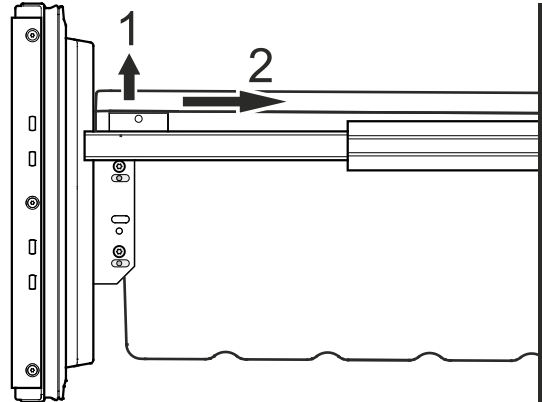
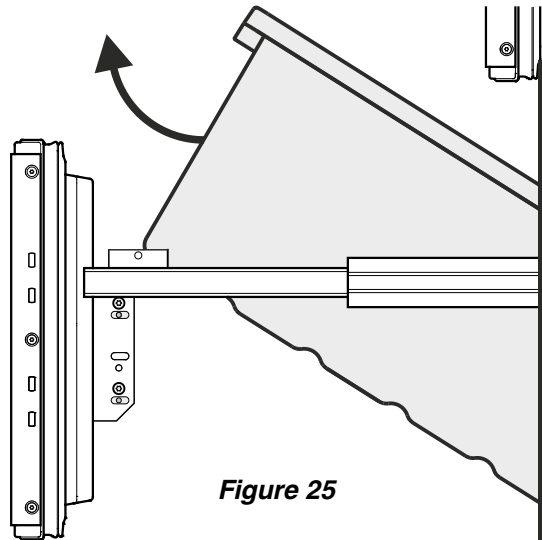

Figure 24
Figure 25
- Unlatch the container on the left and right corners by pulling upwards (1) - **Figure 24**.
- Slide the container backwards (2) - **Figure 24**.
- Tilt the container at an angle and remove - **Figure 25**.
- Remove the freezer drawer containers as shown in *Figure 24* and *Figure 25*.